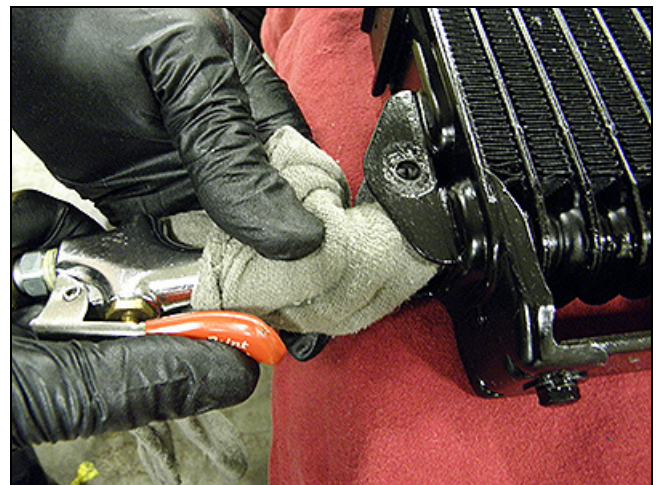

Figure 8
8. Insert the tip of an air gun into the end of the auxiliary fluid cooler inlet (Figure 8).
9. Wrap a shop rag around the air gun tip and end of the cooler inlet (Figure 8).
13. To complete the flush, insert the tip of an air gun again into the end of the auxiliary fluid cooler inlet (Figure 8).
14. Wrap a shop rag around the air gun tip and end of the cooler inlet (Figure 8).